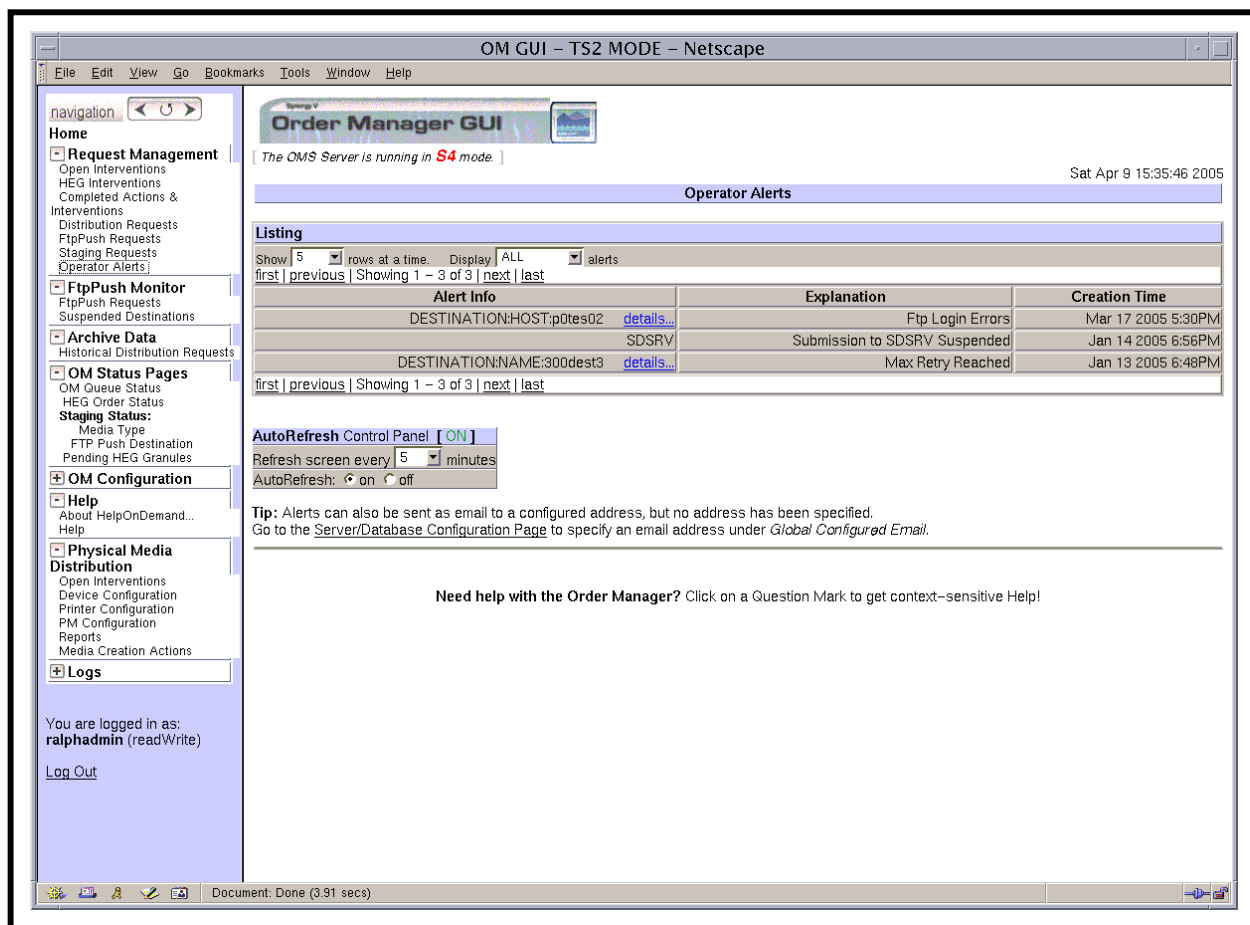

Figure 49. Operator Alerts Page
The **Operator Alerts** page (Figure 49) provides the Distribution Technician (whether full-capability or limited capability operator) with a means of viewing operator alerts. The following types of operator alerts can be displayed:
- The **Operator Alerts** page (Figure 49) is displayed.